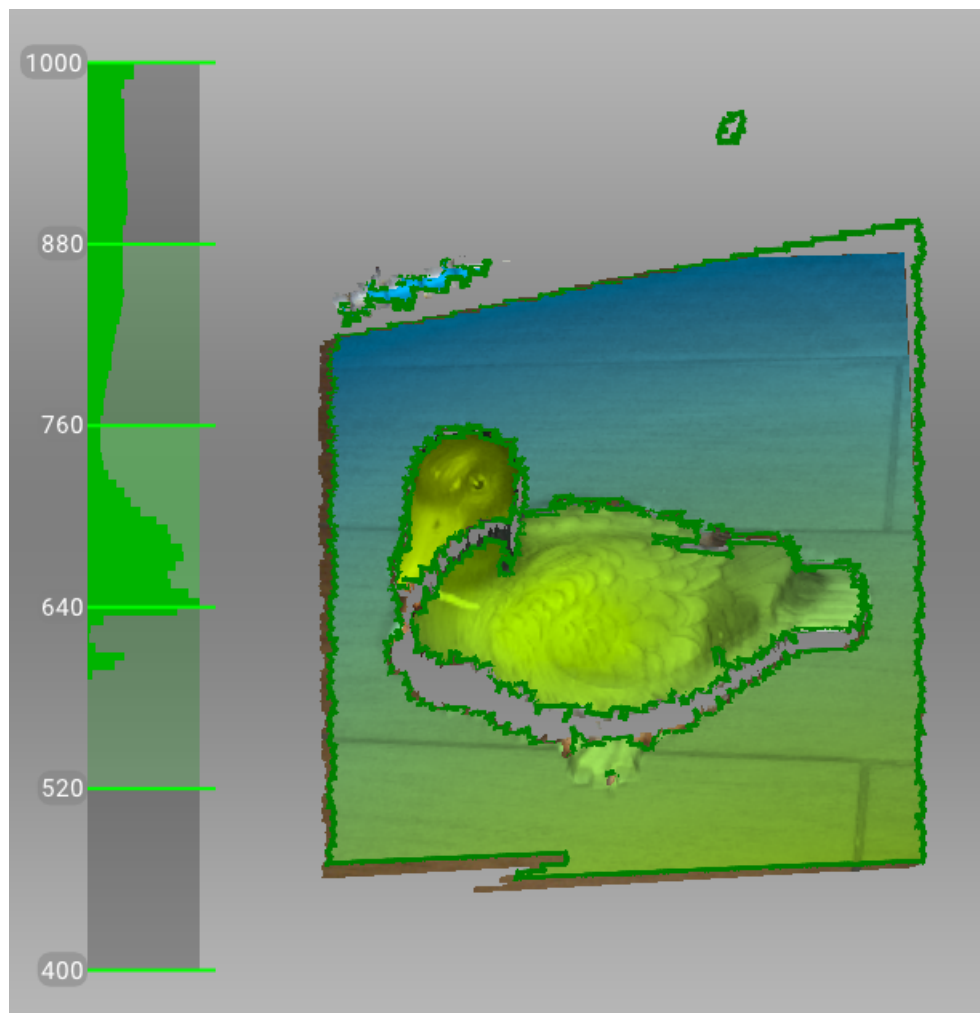

Figure 49: Distance meter and distance color showing surfaces that fall within the optimal range for Artec Eva.
- Try to position the scanner in the way the most surfaces in the field of view are colored in green which corresponds to the center of the range meter1 (Figure 49)
1 Technically, the center of the range meter is the center of the depth of view. The 3D scanner has near and far cutting planes (see Figure 22) that determine the optimum distance between the scanner and the target object. Artec Studio offers the *Range meter* feature so you can easily visualize the distance between the scanner and the object during the recording process. The *Range meter* comprises a set of semitransparent diagrams located on the left side of the *3D View* window (see Figure 49). Each histogram displays the distribution of captured surface points by distance from the scanner. The color corresponds to the set of surfaces from which it was obtained: by default, gray indicates registered key frames, dark green indicates the last successfully registered frame and red indicates a registration error.